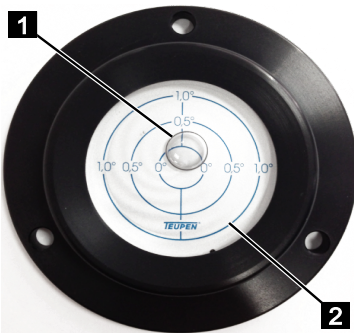

Fig. 130
7. Level out the chassis by aligning it with the circular level (Fig.130) using the outriggers. The bubble (Fig.130/1) in the circular level must be within the 1° circle (Fig.130/2).